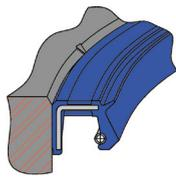

Fig. 1
1. Mishandling prior to seal installation (Fig. 1)	Check bore/housing machining